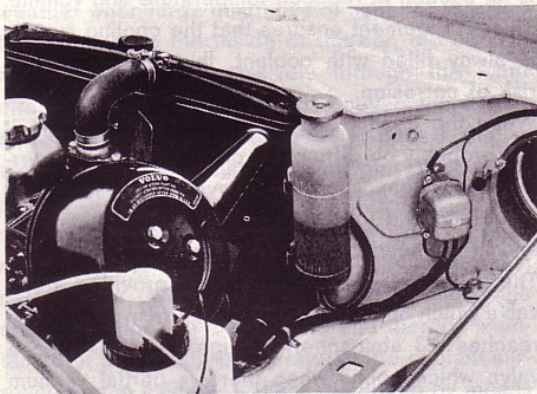

Fig. 110. Expansion tank. Note how the hose is fitted
To drain the cooling system, open a cock located on the engine and remove the plug on the bottom of the radiator. The expansion tank is emptied by first removing it and holding it at a sufficient height so that the coolant runs into the radiator. Another way to empty the expansion tank would be to turn it upside down. When installing, press down the tank well, making sure that it is secure. Make certain that the hose is tightened as shown in Fig. 110.
7. Fit the expansion tank with hose. Fit the hose from the radiator **in front of** the expansion tank and down to its underside so that the hose does not come into contact with the fan. See fig. 110. Make sure that the hose has a smooth curve without any sharp folds.
The pulley belt should be tensioned so that the pulley begins to slide at a pull of $8.0\text{--}11.0 \text{ kg}$ ($17.2\text{--}26.2 \text{ lb.}$), applied to the fan at 150 mm ($6''$) from the hub centre. Pull the fan in the direction of the engine rotation and use a spring balance according to Fig. 110. When adjusting, slacken the bolts at the dynamo attachment on the underside of the dynamo, otherwise tension will arise in the attachment, which would then lose its effectiveness.